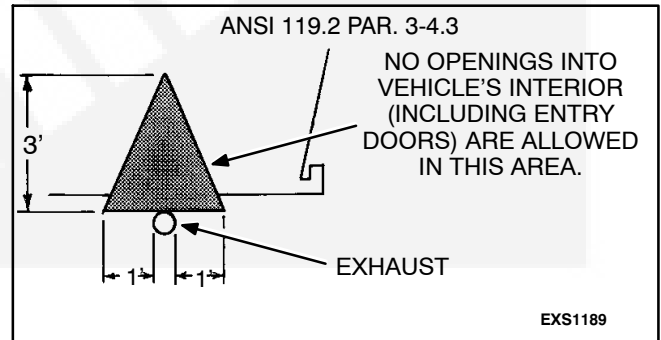

FIGURE 3-17. TAIL PIPE LOCATION
5. Be aware that any vent, window, or opening that can be opened and that is not permanently sealed from the vehicle living space or work area, can be an avenue for carbon monoxide. The tail pipe must not terminate so that any vent, window, or opening into the living area is within the triangular area shown in Figure 3-17.